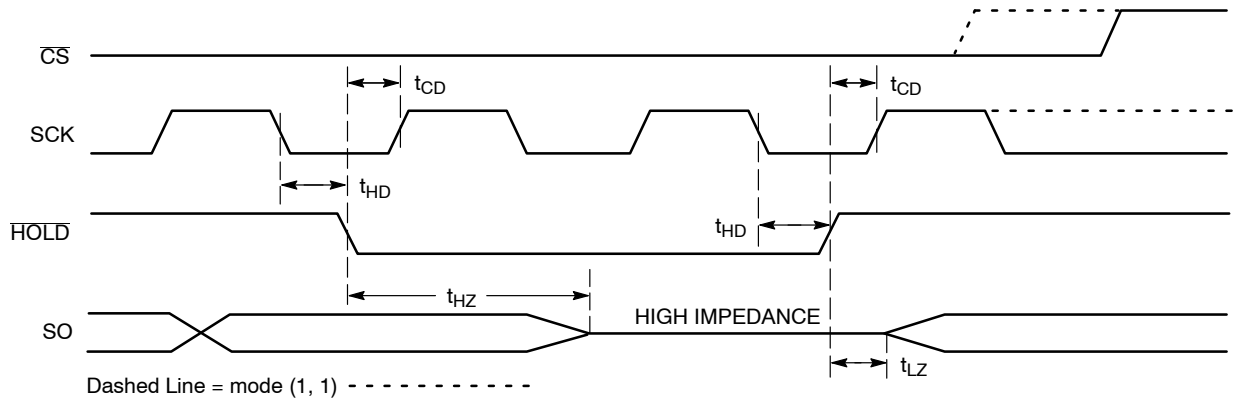

Figure 11. $\overline{\text{HOLD}}$ Timing
The $\overline{\text{HOLD}}$ input can be used to pause communication between host and CAT25128. To pause, $\overline{\text{HOLD}}$ must be taken low while SCK is low (Figure 11). During the hold condition the device must remain selected ($\overline{\text{CS}}$ low). During the pause, the data output pin (SO) is tri-stated (high impedance) and SI transitions are ignored. To resume communication, $\overline{\text{HOLD}}$ must be taken high while SCK is low.